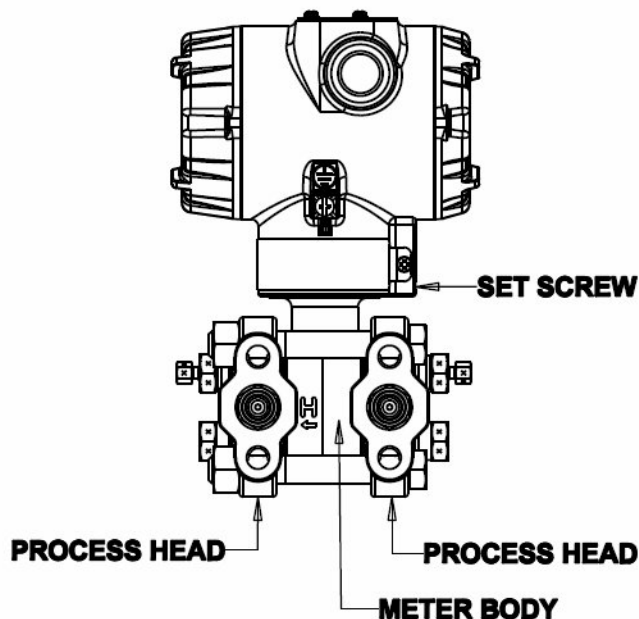

**Figure 64 – ST 700 Basic Transmitter - Disassembly for Meter Body Replacement**
4. Refer to Figure 64. Loosen the End Cap Lock, and unscrew the End Cap from the electronics side of the transmitter housing.